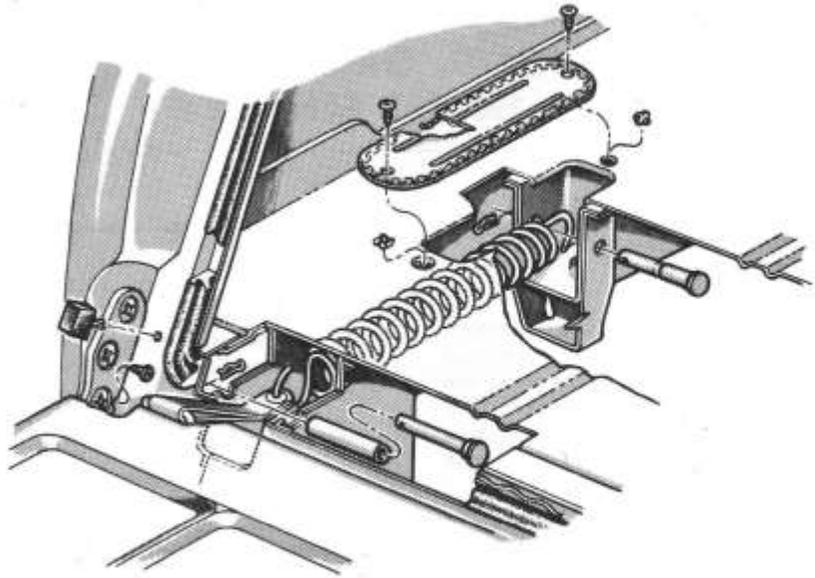

FIG. 20—Tailgate Counterbalance Spring
1. Remove the spring access cover (Fig. 20).
2. From inside the vehicle and with the tailgate in the closed position, insert a 12-inch screwdriver through the hooked end of the spring and into the hole provided in the member, and unhook the spring from the retaining pin (Fig. 20).